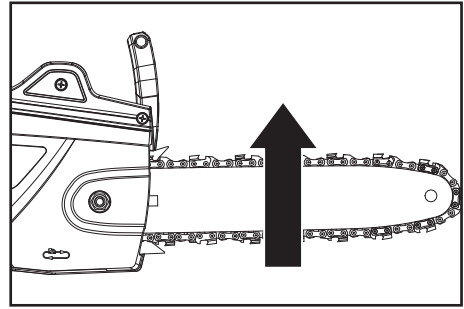

Fig. 2a
2. Lift up the tip of the guide bar (4) and keep it there as you adjust the tension (Fig. 2a).